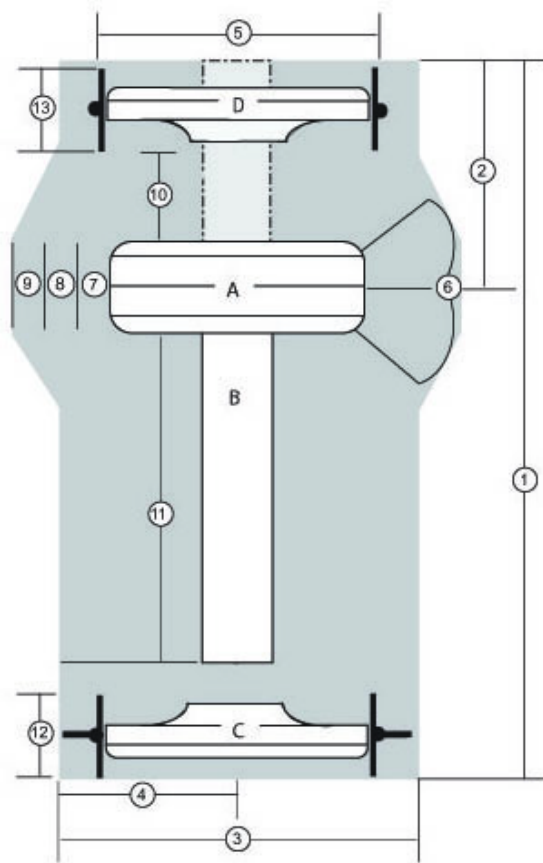

Figure 4-3 Minimum Service Clearances
The service envelopes defined in Figure 4-3 provide enough space to safely allow CT System servicing. System Servicing requires:
Note: When calculating service clearances, refer to Figure 4-3 for all service clearance needs.
- The gantry rear cover, with service dollies installed, requires a clearance width of 2320 mm (91 in.) and a depth of 914 mm (36 in.) for removal. Sufficient space to allow the service engineer to move the cover either straight back or to one side of the table to satisfy the minimum service clearances shown in Figure 4-3 must be maintained. The rear cover with dollies cannot extend past the allowable clearance space within the room. If the system is not sited straight (it is positioned diagonally), full service space is still required. The PMI and customer should discuss this consideration and make the necessary provisions.
The dimensions shown for the minimum room size assume a room configuration in which the front and rear gantry covers are removed and stored straight back. Referenced in Figure 4-3. Refer to the appendix for alternate cover removal options and room configurations.